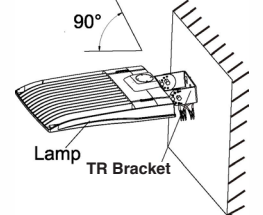

Figure 18
Step 3. Connect the fixture to the bracket and tighten the screws; connect the wires properly and connect them into the junction box. (Figure 18) *Notice: Adjustable angle is 0-90° (Figure 18)*